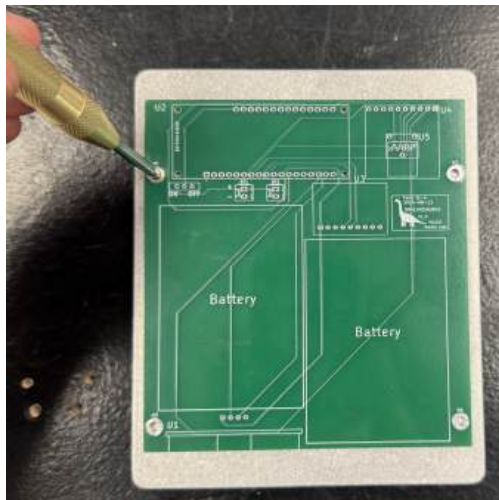

Figure 9: PCB aligned with the box.
1. Position a PCB that is yet to be populated on the top of the aluminum box and align it where you would like the PCB to sit inside the box. Mark the position of the holes (H1, H2, H3, H4) on the box. Allow for 1 cm of space from the top and bottom as to properly fit inside the box. See Figure 9.